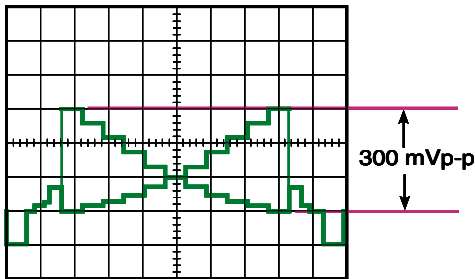

Fig. 3-2
- Set the Lens Iris so that the peak level of the Gray Scale from the Blanking level becomes 300 mVp-p as shown in Fig. 3-2.